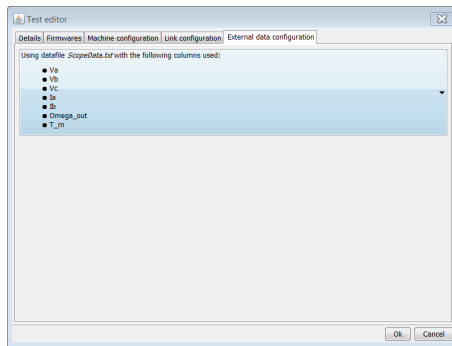

Figure 6.10: Click Create new Test to add a new Test in the Test Sequence.
- *Details*, is shown in Figure 6.10;